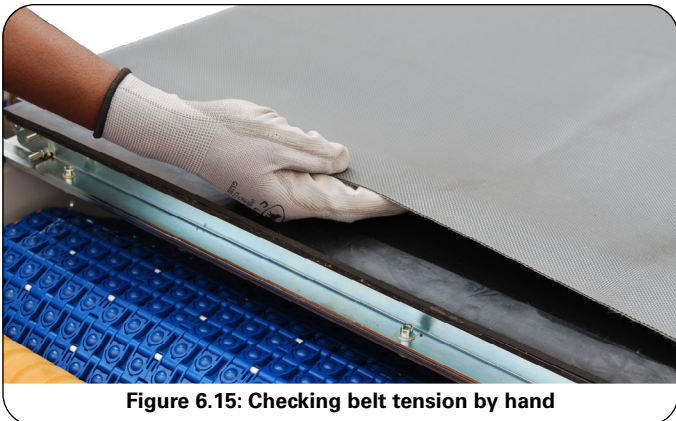

Figure 6.15: Checking belt tension by hand
- g. Proper tension is set by feel. Place your hand between the Divert Belt and the conveyor bed. Manually move the belt with your other hand, while feeling the resistance as the belt passes over your fingers (Figure 6.15). Proper tension is achieved when there is a slight resistance as the belt passes over your fingers. **Note:** Do not over tension the belt as it will cause wrinkling and damage to the belt.